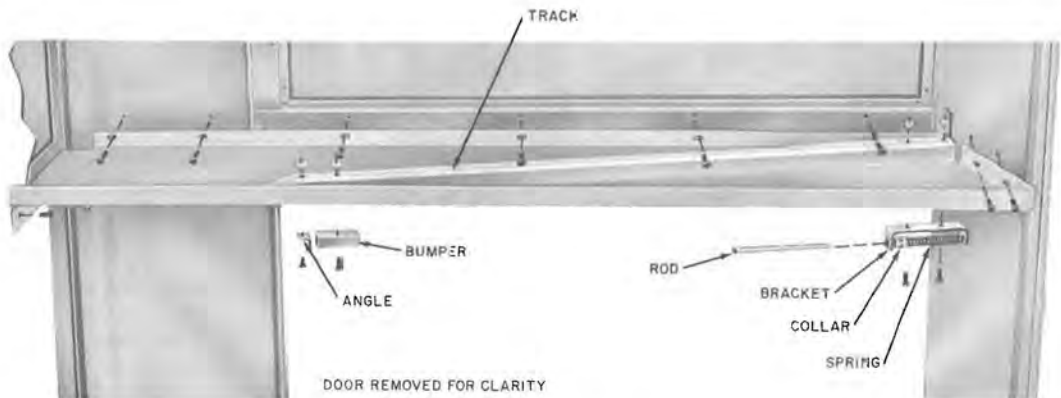

Fig. 26—Installation of Door Track
- Check door track. If worn track is interfering with operation of door, replace track as shown in Fig. 26.